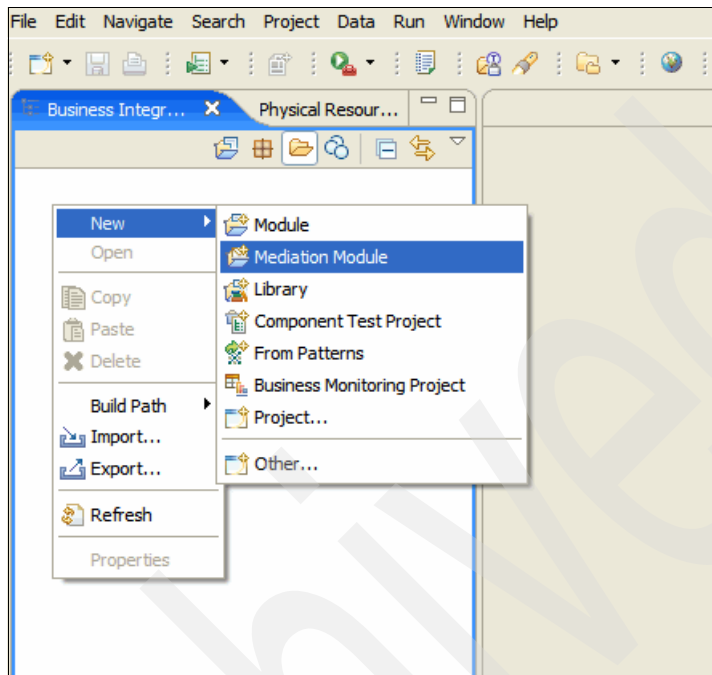

Figure 6-7 Creating a new mediation module
2. In the Business Integration view (Figure 6-7), right-click and select **New** → **Mediation Module**.